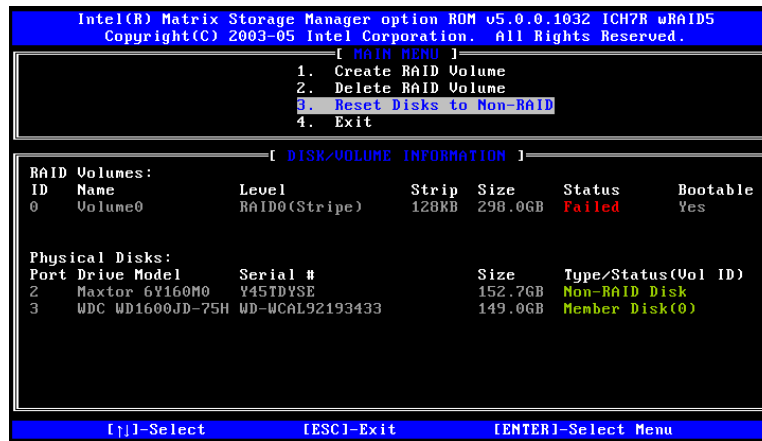

Figure G-15: Disk Drive and RAID Volume Status
Step 4: **Disk Drive and RAID Volume Status.** After the disk drives have been reset, the **Matrix Storage Manager Main** menu is shown indicating the status of the RAID volumes and disk drives. See **Figure G-15**.